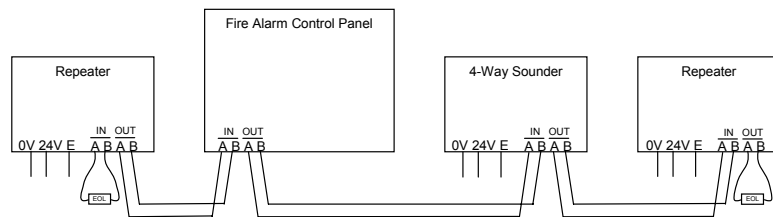

Figure 8 – Typical RS485 Peripheral Link Arrangement
- Setting the jumpers to TERM ON effectively places an EOL resistor as shown in Figure 8. DO NOT use the 150ohm EOL resistors supplied with the FACP RS485 card.